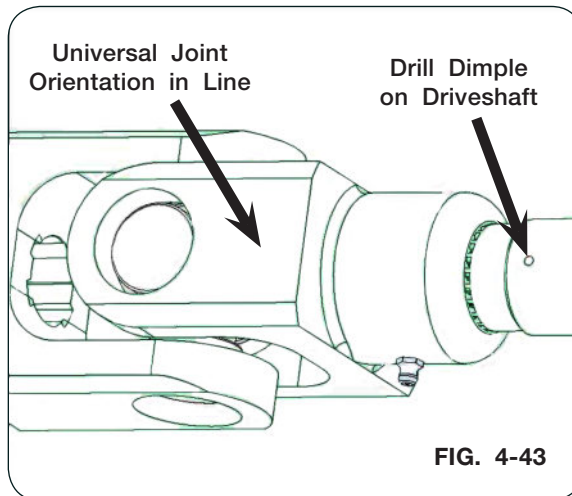

FIG. 4-43
- 13. With flangette mounting hardware completely tightened, drill a setscrew dimple in the driveshaft by going through the bearing setscrew threaded hole to dimple the driveshaft being careful to not damage threads. Drill the dimple to a depth that setscrews are flush with the bearing prior to applying blue thread locker and installing setscrews. (FIG. 4-43)
- 14. For alignment of the yoke, the orientation of the universal joint at the gearbox must be in line with the driveshaft drill dimple when the driveline assembly is attached. (FIG. 4-43 and 4-44)